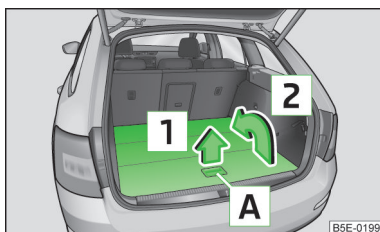

Fig. 98
- Grasp the rear of the variable loading floor by the handle **A** » Fig. 98 and lift in the direction of the arrow **1**.